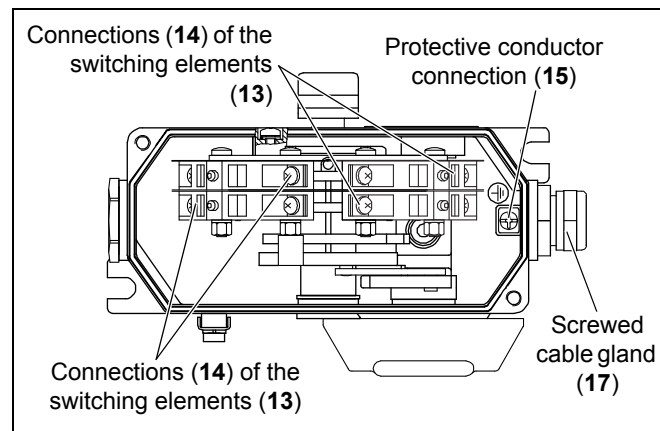

Fig. 5-11: Connecting the switch and protective conductor
3. Loosen the nut on the screwed cable gland (17) and thread the connection cable ($\varnothing$ 11.5 mm to $\varnothing$ 15.5 mm) through it (see *fig. 5-11*).
4. Connect the protective conductor (max. 2.5 mm²) to the provided connection (15) (see *fig. 5-11*).
5. Connect the conductors to the connections (14) of the switching elements (13) as described in the connection diagram inside the cover (12) of the pull-rope emergency stop switch (see *figures 5-11 and 5-12*).
6. Tighten the nuts of the screwed cable gland (17) with a **tightening torque of 6.7 Nm**.
10. Connect each potential equalization conductor with a cross-section of 4 mm^2 to the potential equalization connections (26) on the cover (12) and the casing (25) (see fig. 5-11).